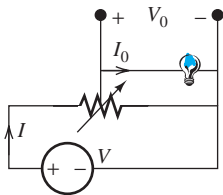

FIGURE P3.78 Circuit for Problem 3.78.
- 3.78 (H) The light bulb shown in Figure P3.78 has a resistance of $R_0 = 2\ \Omega$. The working voltage $V_0 = 4.5\ \text{V}$. $V = 6\ \text{V}$. Find the conditions under which the power efficiency η (defined as the ratio of the power consumed by the bulb and the power provided by the source) is maximum.